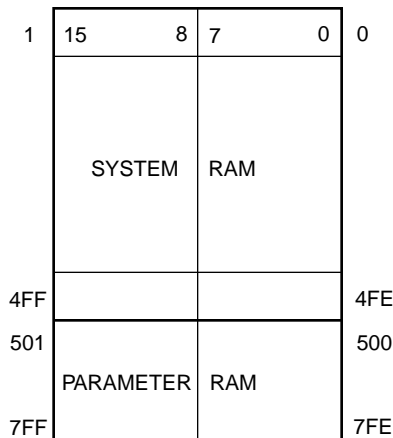

Figure 5-4. DPR Addressing
5.3.3.1 DPR. The DPR is accessible by both the communication controller and the host. It is composed of system memory and parameter RAM, shown in Figure 5-4.